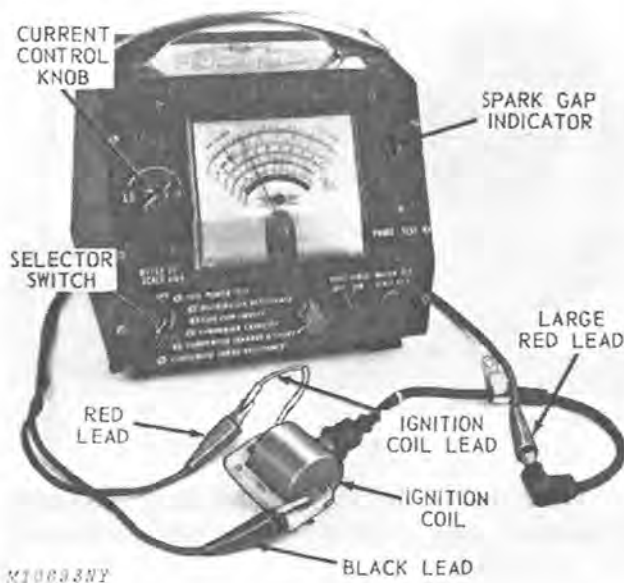

Fig. 13-Testing Coil Power
1. Connect the large red lead to the spark plug connector, Fig. 13.
2. With Denso system (See Specifications, Group 25.) connect other red lead to ignition coil lead and black lead to coil laminations, Fig. 13.
4. Set the current control knob to "LO" and set selector switch to position No. 1 Coil Power Test, Fig. 13.